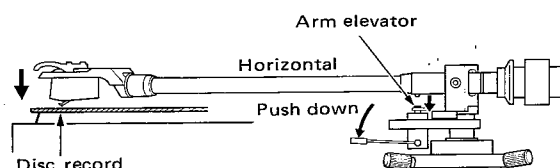
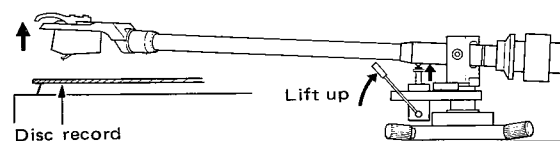

Fig. 13
Fig. 14
- Now check the action of the arm elevation lever. When it is lifted, the stylus should rise above the record surface (Fig. 14). When the lever is pushed down, the arm elevator should not touch the tonearm (Fig. 13).